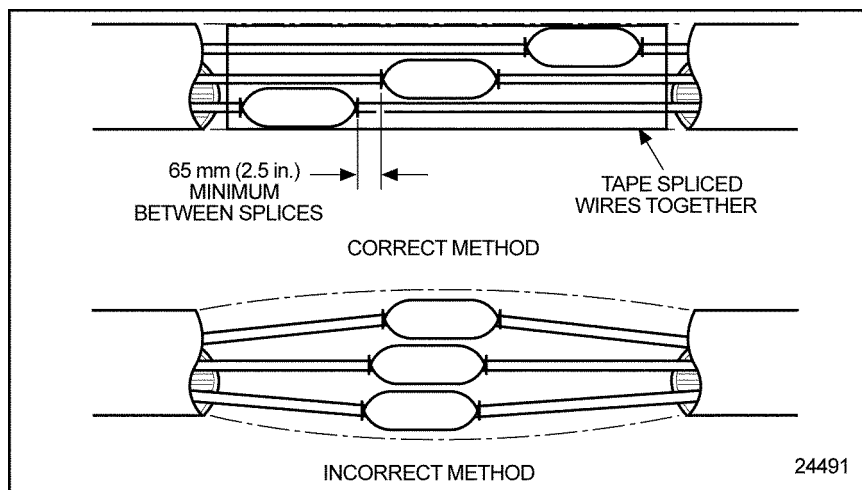

Figure 16-46 The Correct and Incorrect Method of Staggering Multiple Splices
1. Stagger the position of each splice (see Figure 16-46) so there is at least a 2.5 in. (63.5 mm) separation between splices.